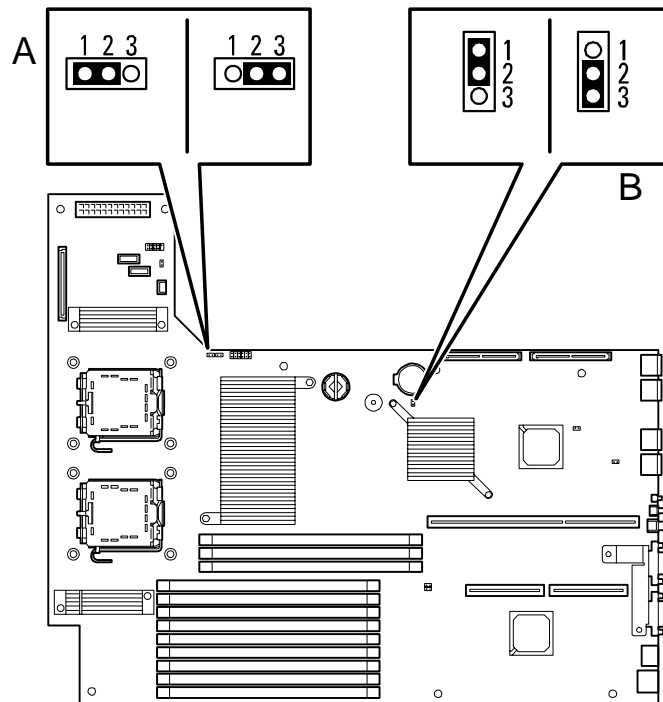

Figure 36: Clear CMOS & Clear Password Jumpers
3. Locate the position of the jumpers on the motherboard (see Figure 36: on page 99).